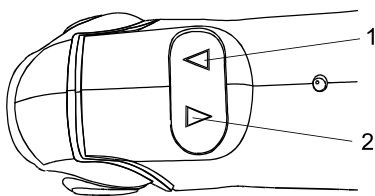

Fig. 3
1. To drive screws, press the right hand side of the switch (1) (Fig. 3). To turn the switch OFF, release the switch.
2. To remove screws, press the left hand side of the switch (2).